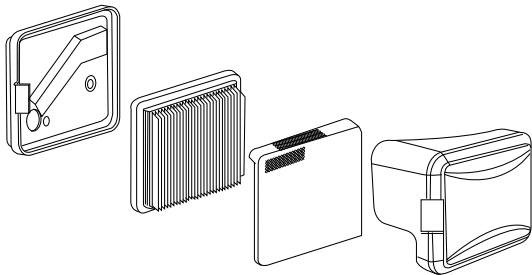

Figure 11
3. Inspect air cleaner (see Figure 11). Clean or replace as needed.